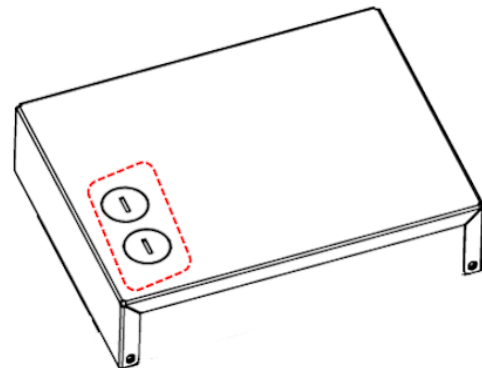

Fig. 4
4. There are 2 knockouts on top of the emergency LED driver junction box cover which can be used for the wiring of the switched and unswitched lines. Cut the necessary length of wires and use the appropriate cable gland for the switched and unswitched lines (Fig. 4).